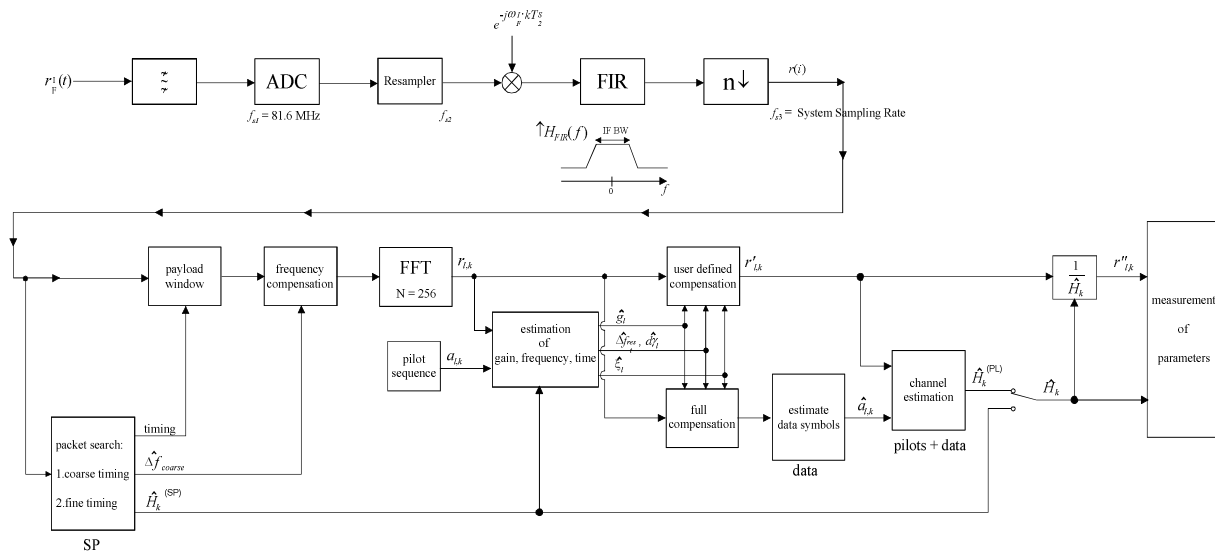

Fig. 69 Signal processing of the IEEE802.16 OFDM measurement application
A diagram of the interesting blocks is shown in Fig. 69. First the RF signal is downconverted to the IF frequency $f_{IF} = 20.4$ MHz. The resulting IF signal $r_{IF}(t)$ is shown on the left-hand side of the figure. After bandpass filtering, the signal is sampled by an Analog to Digital Converter (ADC) at a sampling rate of $f_{s1} = 81.6$ MHz. This digital sequence is resampled to the new sampling frequency of $f_{s2} = 80$ MHz which is a multiple of the Nyquist rate (20 MHz). The subsequent digital downconverter shifts the IF signal to the complex base band. In the next step the base band signal is filtered by a FIR filter. To get an idea, the rough transfer function is plotted in the figure. This filter fulfils two tasks: first it suppresses the IF image frequency, secondly it attenuates the aliasing frequency bands caused by the subsequent downsampling. After filtering, the sequence is sampled down by the factor of 4. Thus the sampling rate of the downsampled sequence $r(i)$ is the Nyquist rate of $f_{s3} = 20$ MHz. Up to this point the digital part is implemented in an ASIC.
In general, the coarse frequency estimate $\hat{\Delta f}_{\text{coarse}}$ (see Fig. 69) is not error-free. Therefore the remaining frequency error Δf_{rest} represents the not yet compensated frequency deviation in $r_{l,k}$. Consequently the overall frequency deviation of the device under test (DUT) is calculated by $\Delta f = \hat{\Delta f}_{\text{coarse}} + \Delta f_{\text{rest}}$. Remark: The only motivation for dividing the common phase drift in equation (2) into two parts is to be able to calculate the overall frequency deviation of the DUT.